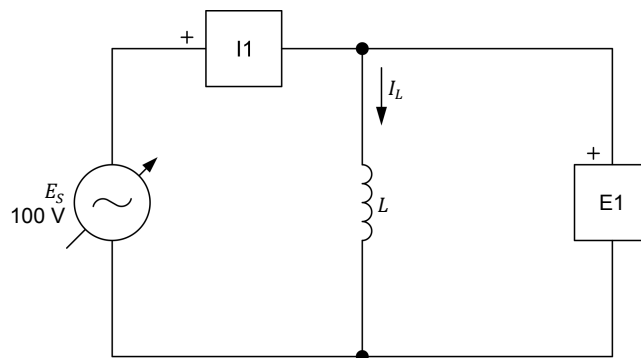

Figure 2-4. AC circuit containing an inductor.
7. Set up the circuit shown in Figure 2-4.
The value of the inductance L to be used in the circuit of Figure 2-4 depends on the frequency of the ac power source, as indicated in Table 2-1.